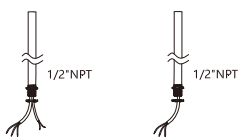

Figure 8
Step1. Unscrew the nuts on 1/2" NTP. (Figure 8)